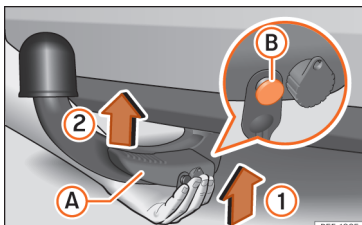

Fig. 174 Putting the tow hook in place. Step 1.
- Hold the tow hook **from below** and fit it into the hook housing in the direction of the arrow »» Fig. 174 1 until it is heard to fit into place »» ⚠.
Lever »» Fig. 174 A automatically turns in the direction of arrow 2 upwards, and the release bolt B moves outwards (its red and green parts are visible) »» ⚠.
- **Keep your hands away from the lever when fitting the tow hook to avoid trapping your fingers »» Fig. 174 A.**